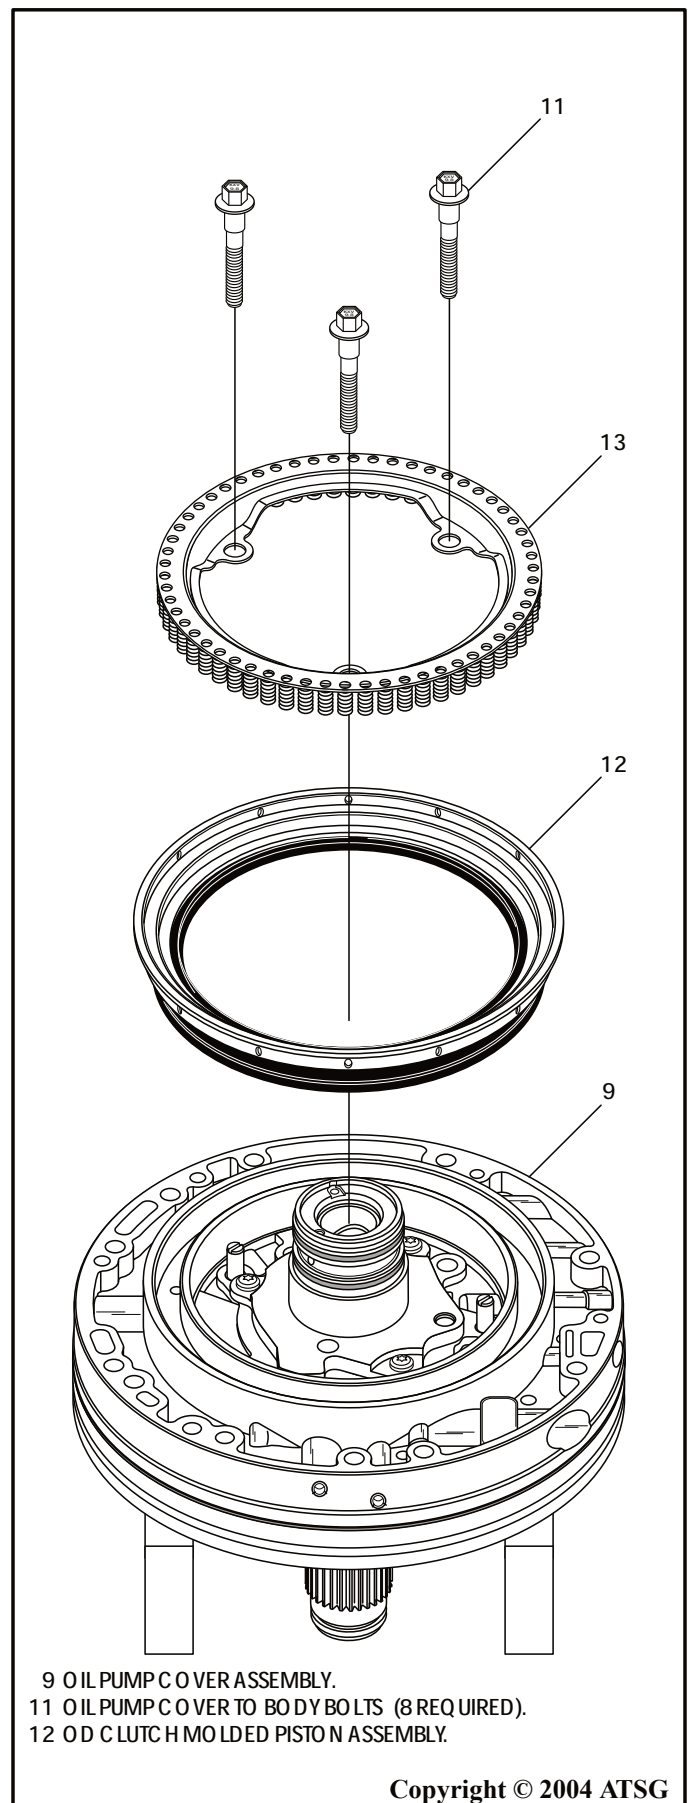

Figure 90
18. Lubricate and install new overdrive clutch piston, as shown in Figure 90.
19. Install the overdrive clutch piston return spring assembly, as shown in Figure 90.
20. Install three return spring retaining bolts in the locations, shown in Figure 90, and tighten by hand only.